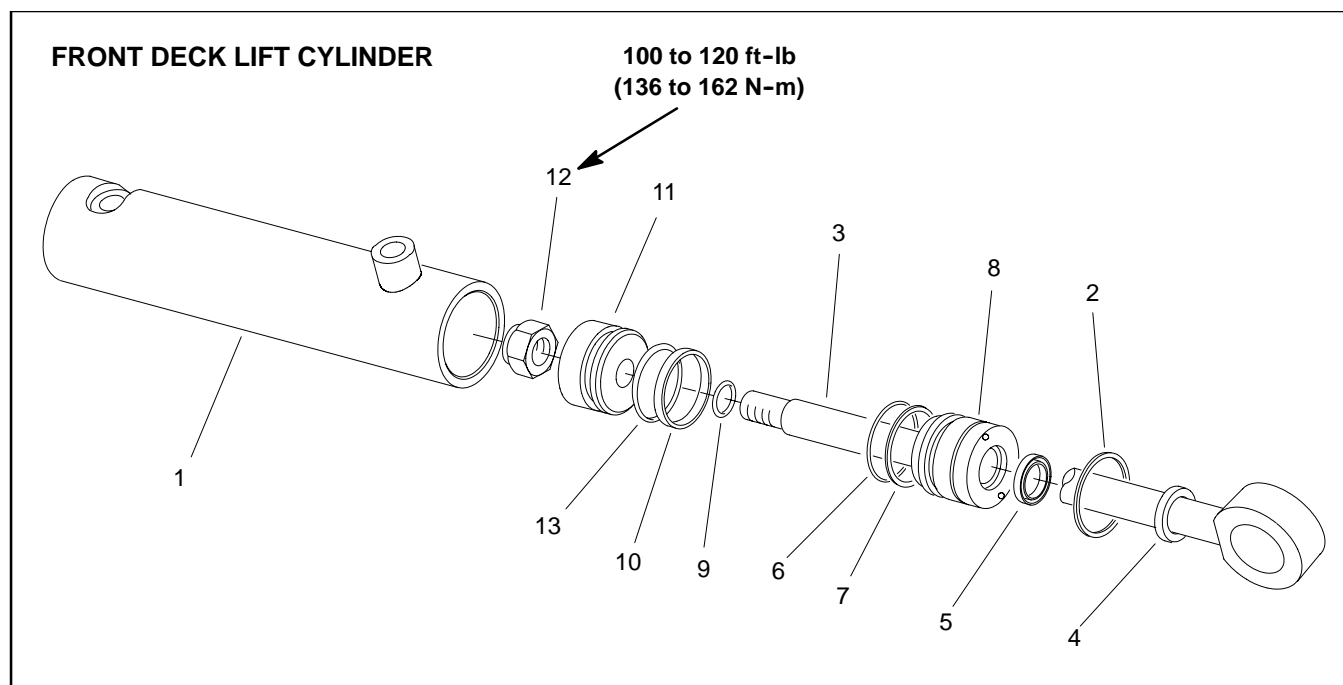
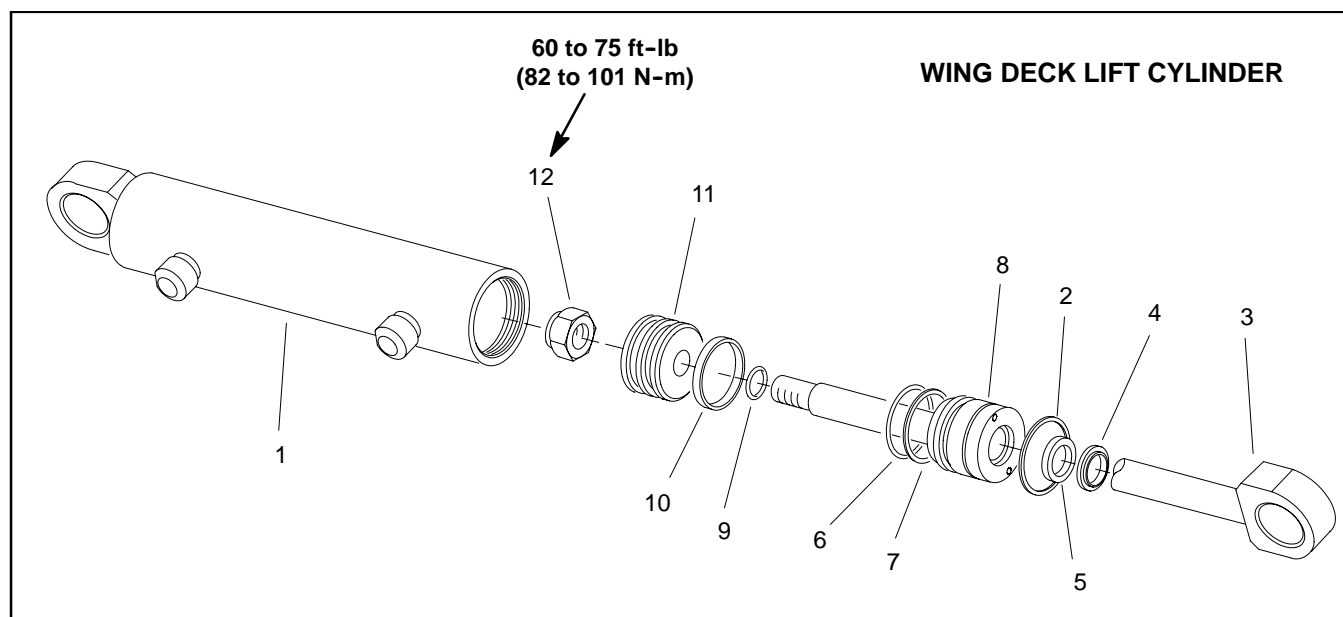

Figure 105
Figure 106
Disassembly (Figs. 105 and 106)
Assembly (Figs. 105 and 106)
C. Torque lock nut to specification in Figure 105 (front deck lift cylinder) or Figure 106 (wing deck lift cylinder).